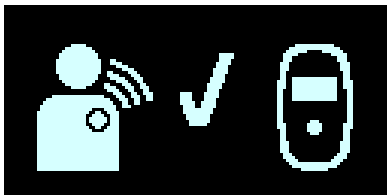

Figure 14: IPG Data Download Success Screen
- When your Guardio Charger has successfully completed downloading the data, it will display the IPG Data Download Success screen accompanied by 3 short beeping tones. The flashing checkmark indicates that your Guardio Charger was able to successfully able to download information from your implanted device. **See Figure 14.**